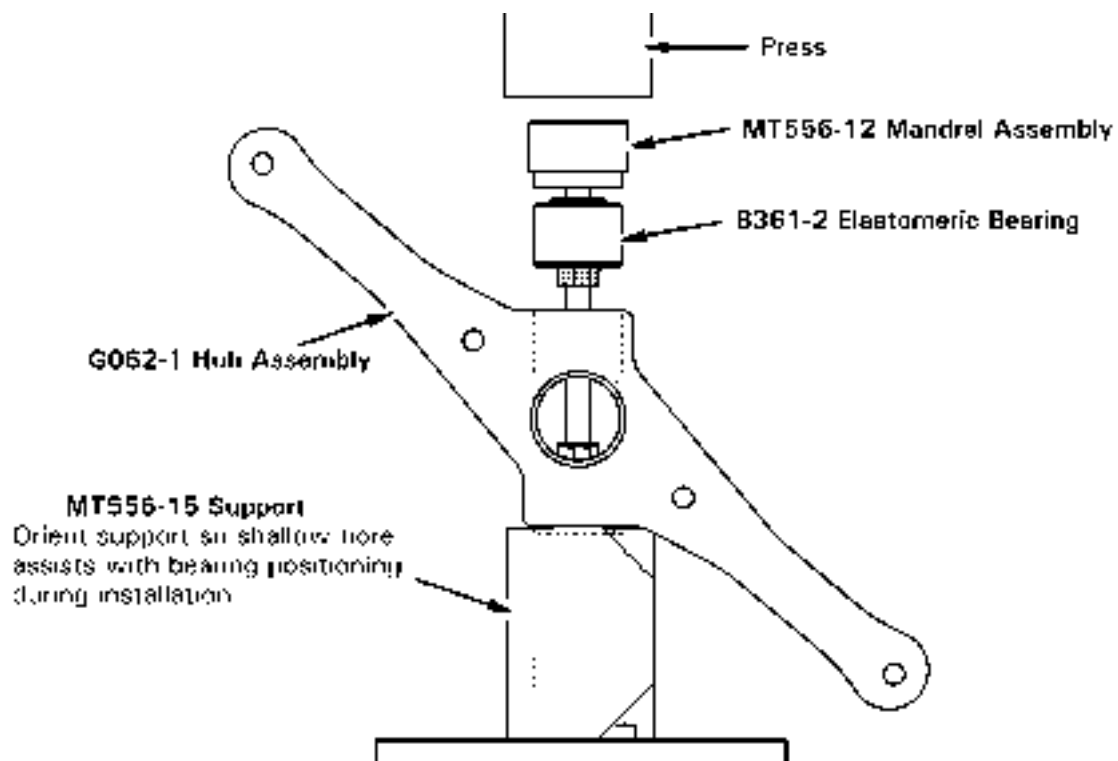

FIGURE 9-18 ELASTOMERIC BEARING INSTALLATION
2. Refer to Figure 9-18. Using Q-tip, apply light coat of approved primer (see Section 1.400) to bottom of hub bearing bore. Apply a thin line of primer to center of bearing outside diameter. While primer is wet, press bearing into hub using MT556-11 bearing removal and installation tools. Wipe away excess primer.